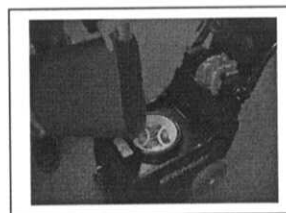

Figure 3
4. Using a clean bucket or hose, fill solution tank with 15L (4gal) of hot water, 60°C (140°F) maximum (Figure 3). Observe solution tank hose at rear of machine when filling. The hose indicates the amount of water in solution tank. Do not use Recovery tank to fill machine. Use a clean bucket. (Figure 3)